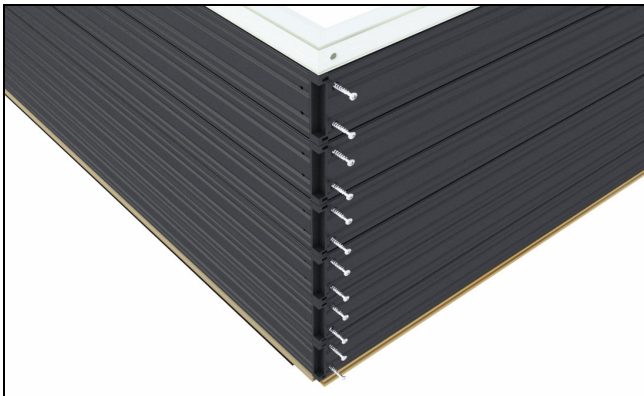

Figure 60
3. Fasten head jamb to side jamb using #8 x 1 1/4" pan head screws. See figure 60. Do not install screw into frame cladding miter at this time. *Note: If unit is prepped for motorization, use two #8 x 3/8" pan head screws on interior track.*